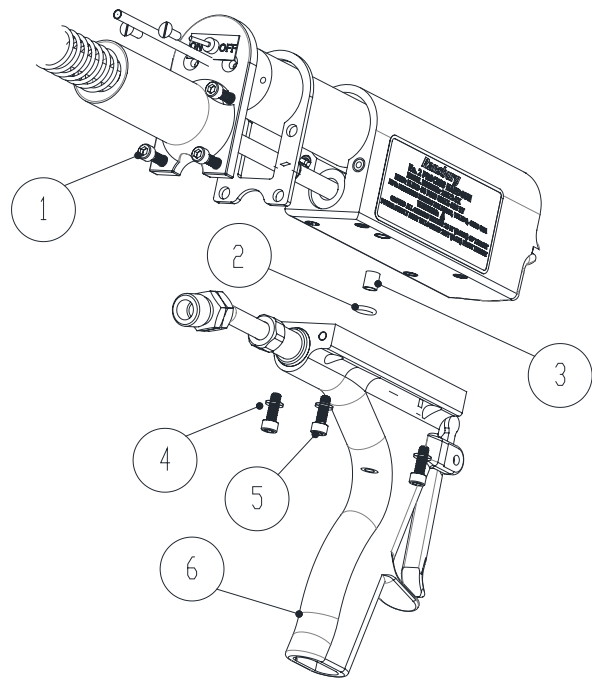

Figure 18: Handle Assembly Removal
1. Invert the applicator and remove the (4) socket head cap screws and lock washers from the underside of the handle assembly with a 9/64-inch hex key wrench. Refer to Figure 18.
HANDLE ASSEMBLY REMOVAL (Figure 18)